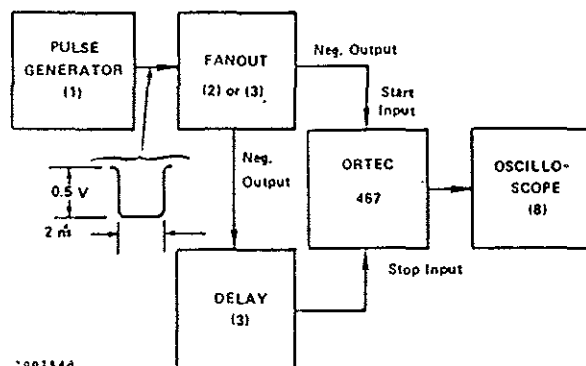

Fig. 6.1. Test System for Checking Conversion.
**Conversion Tests** Use the typical test setup shown in Fig. 6.1 and supply a start and stop pair of input signals with known time difference into the 467. Observe the TPHC output. Then use the following procedures: